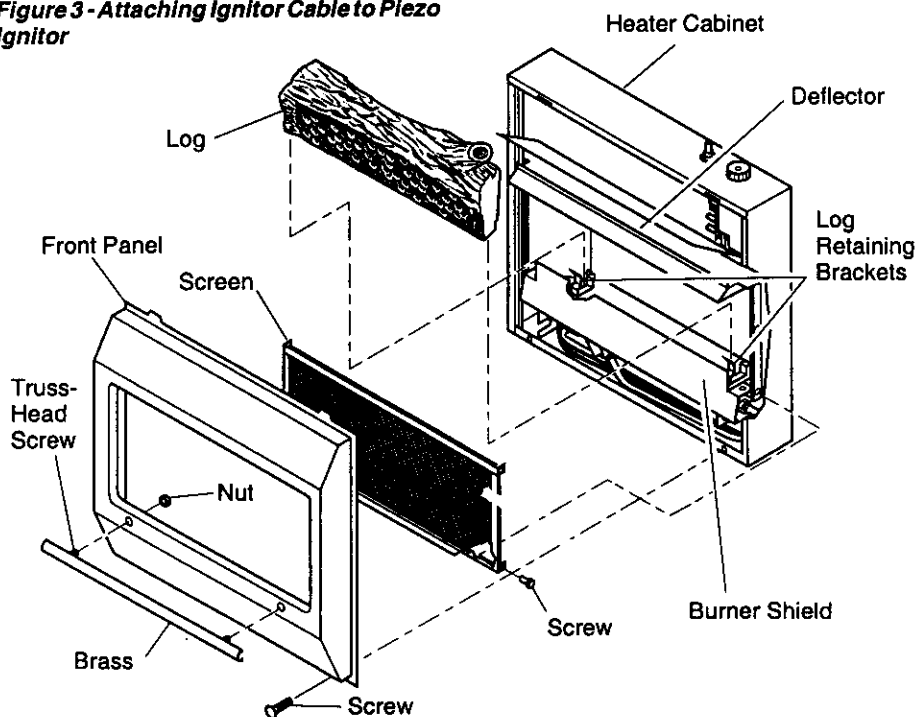

Figure 4 - Assembling Heater
4. Gently slide log between log retaining brackets on deflector assembly (see Figure 4). The log should fit firmly against bottom of log retaining brackets.
3. Line up screws with holes in front panel (see Figure 4). Insert screws in holes. Attach nuts from inside of front panel. Tighten with wrench.